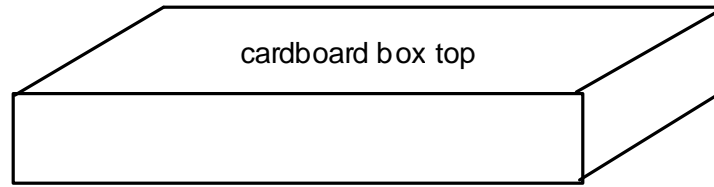
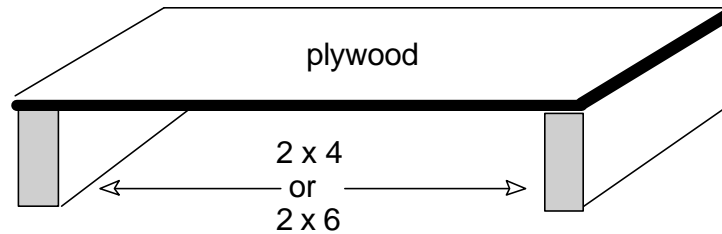

Figure 2: Platform made from cardboard box top
Figure 3: Plywood platform supported on 2 x 4s or 2 x 6s
2. *A wooden or cardboard platform at least 17.5 inches long, 11.5 inches wide, and 3.5 inches high.* The top cover from a box of copy paper works well as a platform (see Figure 2). An alternative is to use a piece of plywood supported by two short pieces of 2 x 4s or 2 x 6s placed at each end of the platform (see Figure 3 on next page). To construct a ramp and platform with a breakaway section, see Appendix C. Extra platform height obtained by using 2 x 6s for supports may be needed for lighter model tractors and those with a large muffler. With the lower platform height, a lightweight model tractor, or one with a large muffler, the egg may not break when the tractor flips. Using 2 x 6s as supports raises the platform height and overcomes these problems.